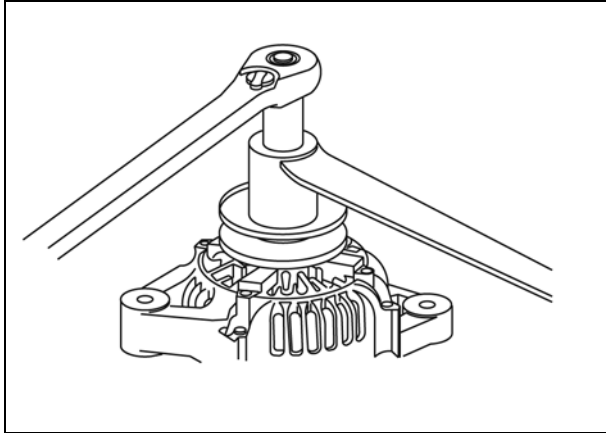

Figure 20
- Remove nut and insulator at "B" terminal (A, Figure 20). Remove three screws and brush cover (B).